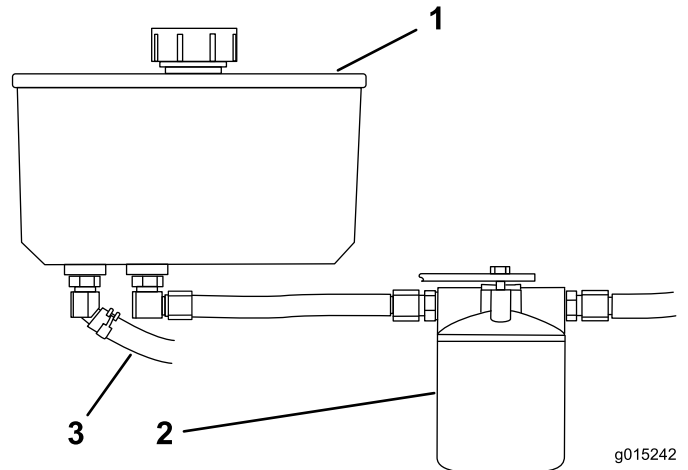

Figure 77
4. Locate the front hydraulic hose under the hydraulic tank and place drain pan under the tank (Figure 77).